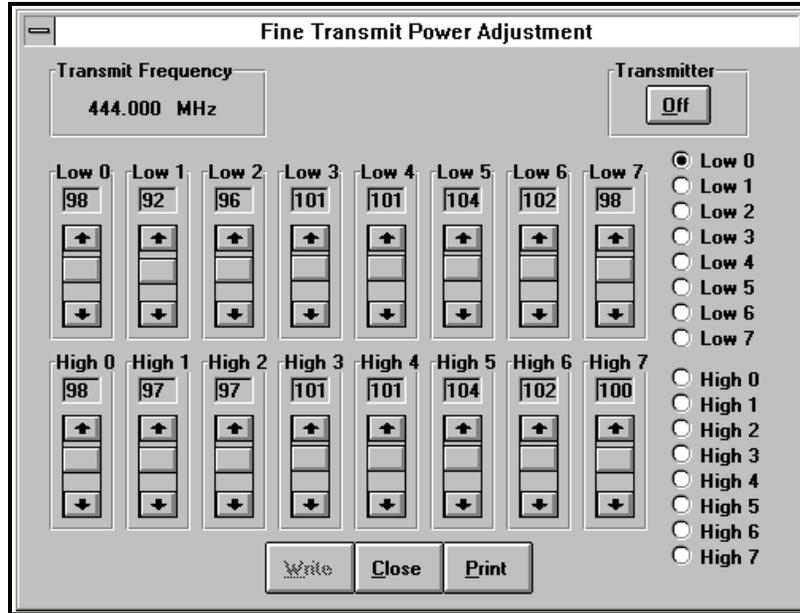

Figure 7.6 – Fine Transmitter Power Calibration
1. Select “Fine Transmit Power Adjustment” from the Service dropdown menu. The service adjustment window is shown in Figure 7.6.